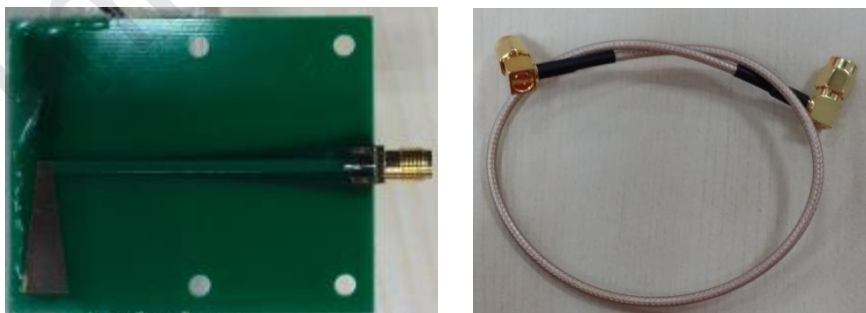

Figure 2 PCB antenna board and RF cable
- 2) A PCB Antenna board and a RF cable provided by Telink, as shown in Figure 2.